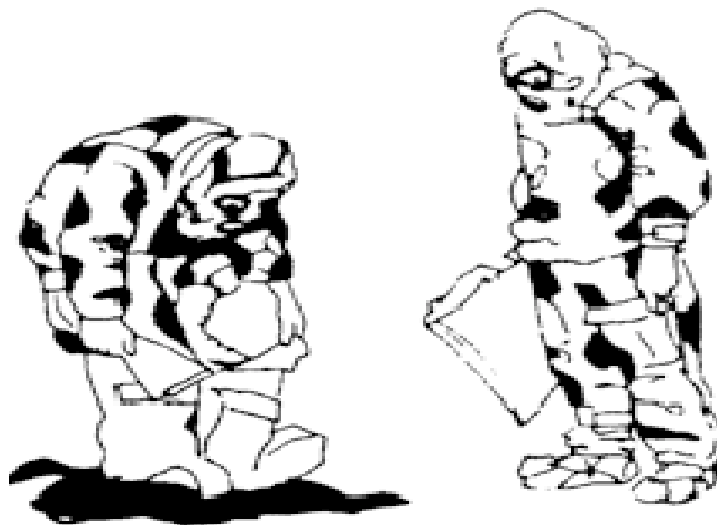

Figure E-95. Replacing the trousers.
(1) Put on the new trousers, leaving the cuffs open (figure E-95).